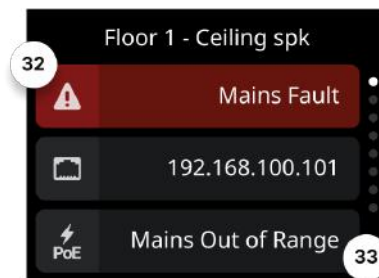

Fig. 2.2 - Mains fault
Main fault (32) reports that main voltage is out of range. Figure 2.2 shows an example of Main fault with connected PoE, as the Power block (33) is reporting.